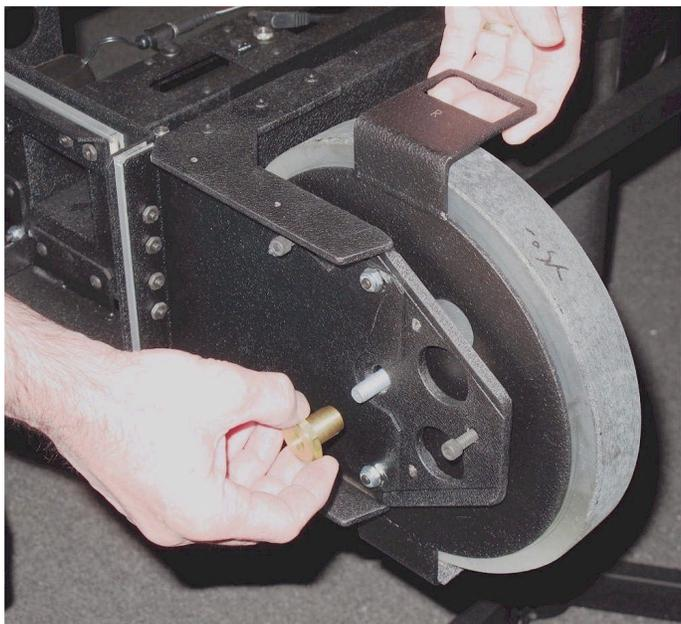

Figure 25
3. With one hand holding the top handle and supporting the mirror weight, loosen and remove the central brass centering nut to release the mirror cell from its position against the collimation bolts (Figure 25).